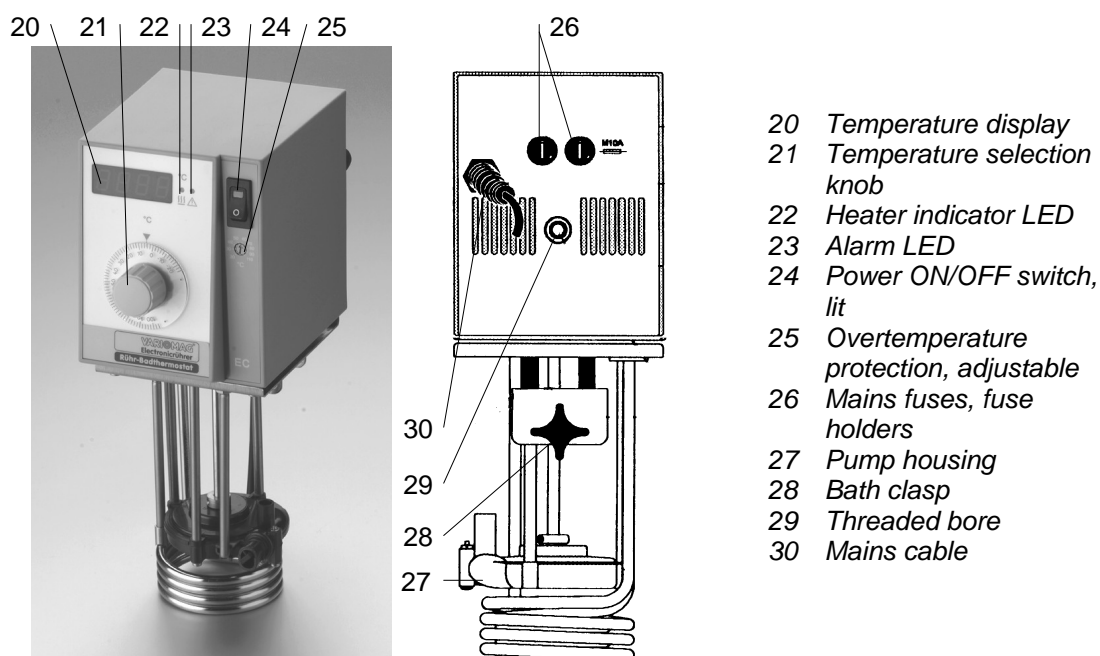

Figure 9: Suspension thermostat, front (left) and back (right)
- ◆ Use the bath clasp (28) to attach the suspension thermostat (18) to the back wall of the bath mount (19; Figure 9).
- ◆ Turn the pump housing (27) so that the direction of the stream optimally circulates the bath liquid.